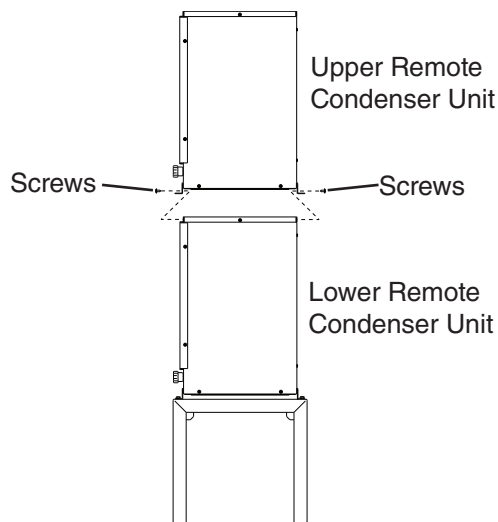

Fig. 11
- 2) Place the upper remote condenser unit on top of the lower. See Fig. 11.